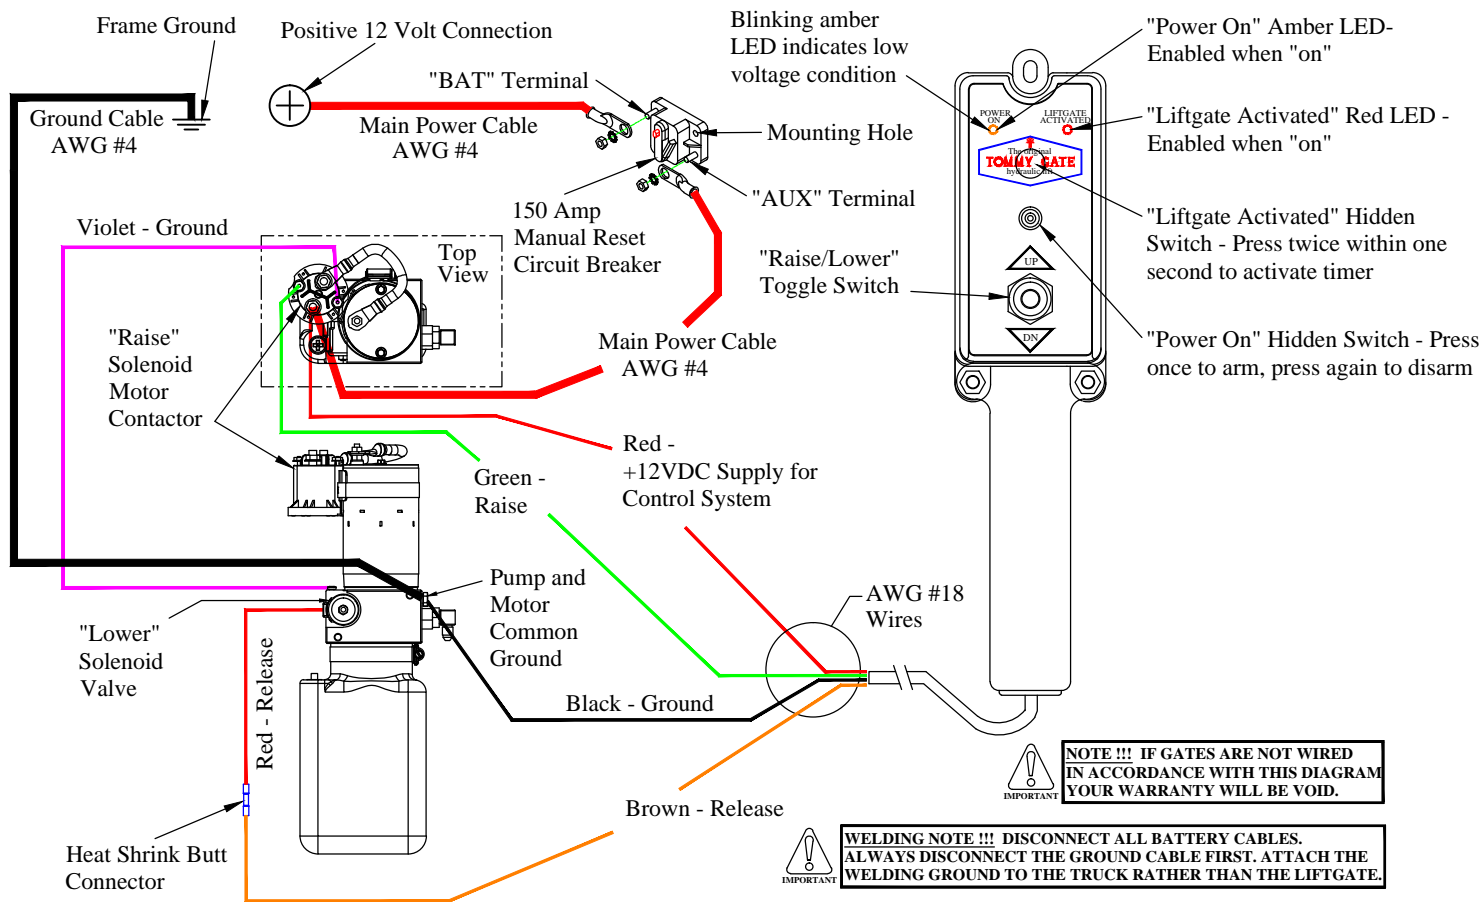

Figure 21: Wiring Diagram.
Note: Follow the *Tommy Gate Recommended Electrical Wiring Guidelines* and wiring diagram (Figure 21) in the following steps.
13. **Connect** the circuit breaker (Figure 21). Use the supplied heat shrink tubing.
21. **Connect** the positive(+) lead to the CCP bus bar. Use the supplied 5/16" bolt, lock nut, and two (2) pieces of heat shrink tubing to cover the cable connection to the bus bar.
23. **Push** the hidden "Power On" switch (Figure 21). The amber "Power On" LED will illuminate.